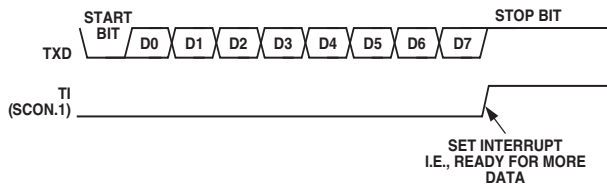

Figure 55. UART Serial Port Transmission, Mode 0.
Transmission is initiated by writing to SBUF. The ‘write to SBUF’ signal also loads a 1 (stop bit) into the ninth bit position of the Transmit Shift Register. The data is output bit by bit until the stop bit appears on TXD and the transmit interrupt flag (TI) is automatically set as shown in Figure 55.